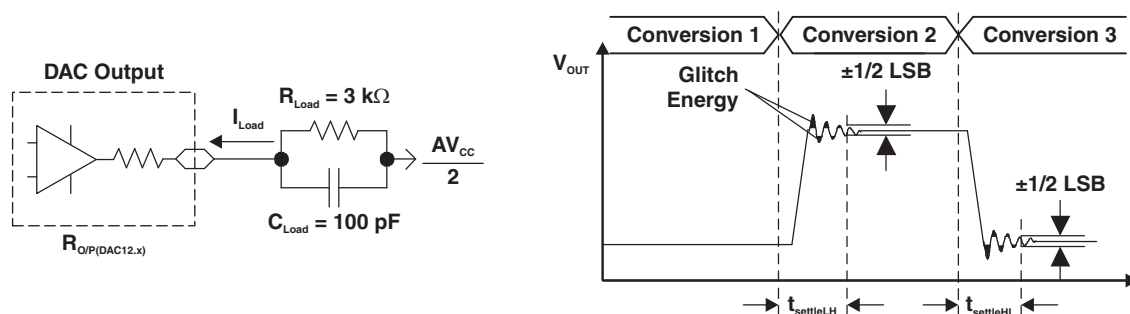
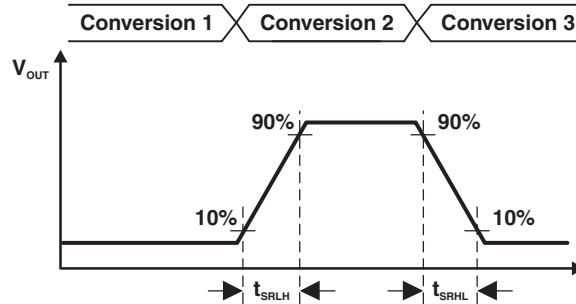

Figure 5-21. Settling Time and Glitch Energy Testing
Figure 5-22. Slew Rate Testing
V_{REF} = V_{CC}, DAC12IR = 1 (see Figure 5-21 and Figure 5-22), over recommended ranges of supply voltage and operating free-air temperature (unless otherwise noted)
| t _{ON} | DAC12 on time | DAC12_xDAT = 800h, Error _{V(O)} < ±0.5 LSB ⁽¹⁾ (see Figure 5-21) | 2.2 V, 3 V | 60 | 120 | 15 | 30 |
- (1) R_{Load} and C_{Load} connected to AV_{SS} (not AV_{CC}/2) in Figure 5-21.
- (2) Slew rate applies to output voltage steps ≥ 200 mV.